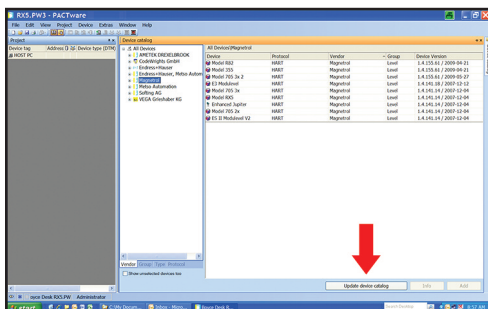

Figure 9
- Press UPDATE DEVICE CATALOG (Figure 9)